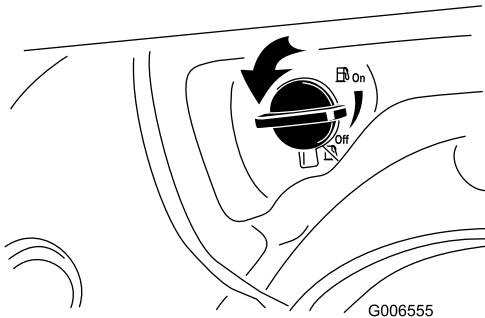

Figure 27
2. Turn the fuel shutoff valve 1/4 turn counterclockwise to open it (Figure 27).